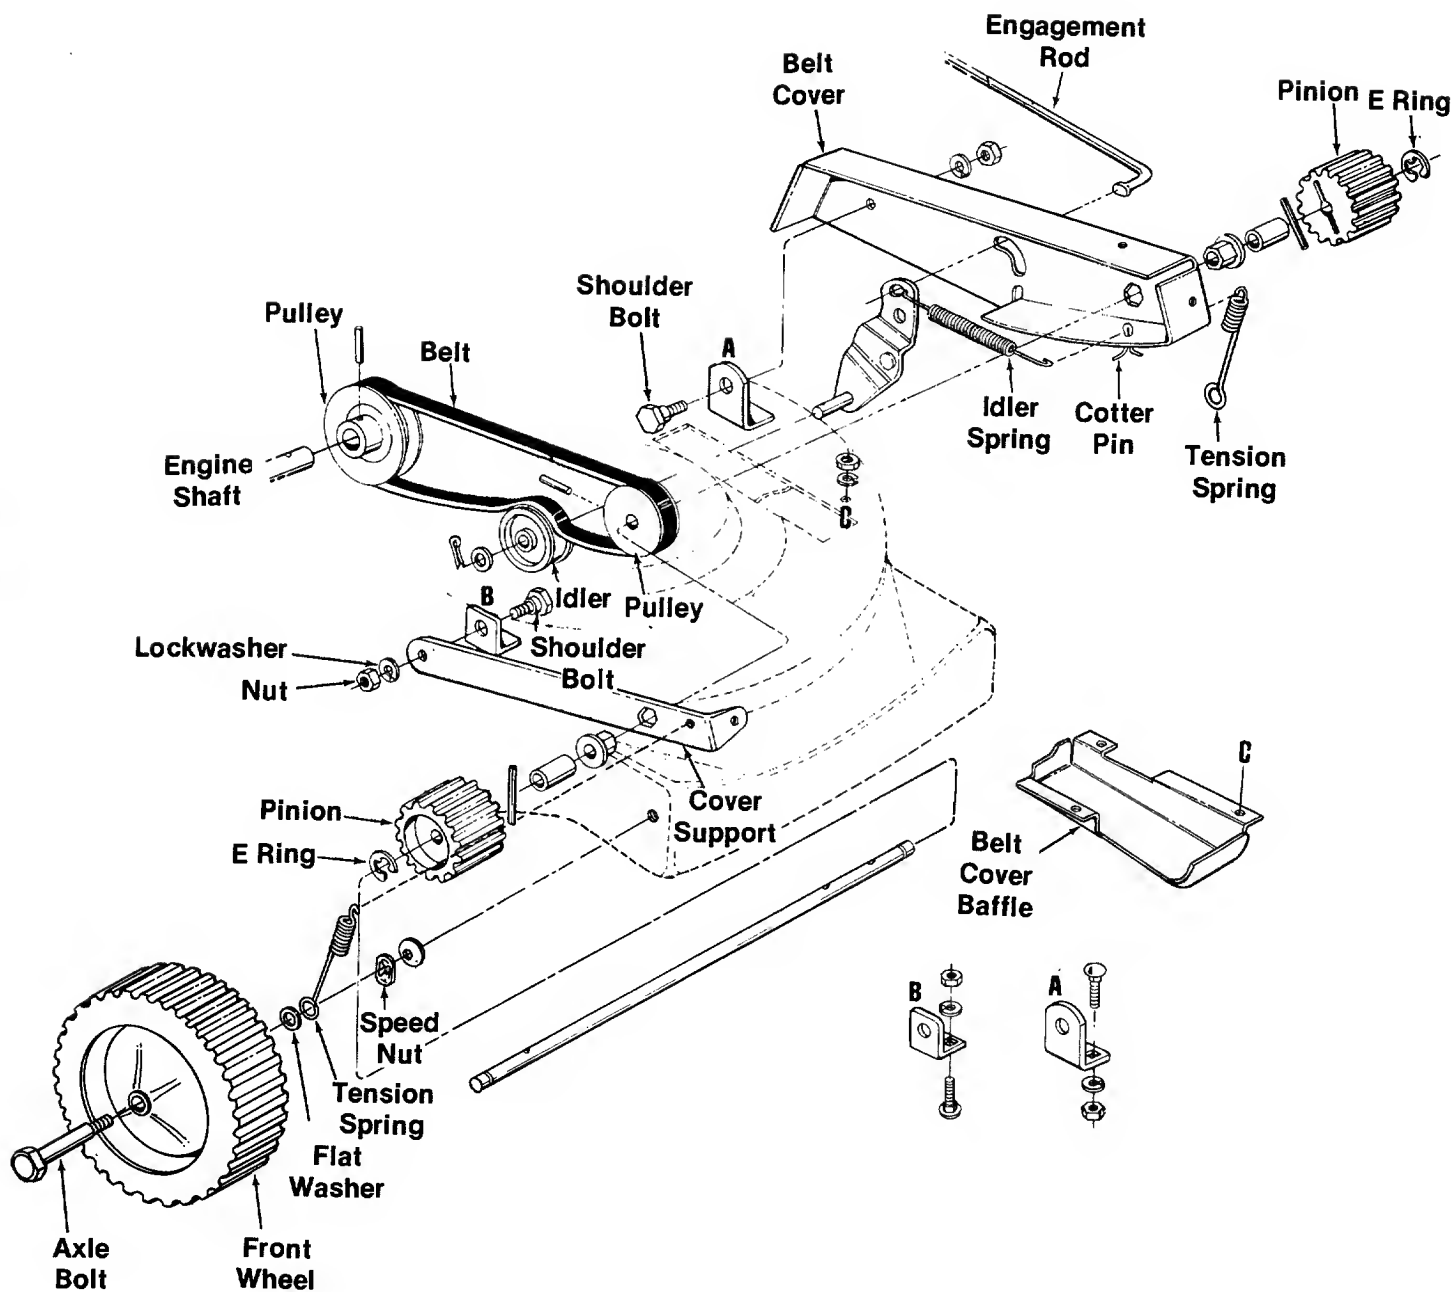

FIGURE 6.
2. Remove both tension springs. (See figure 6.)